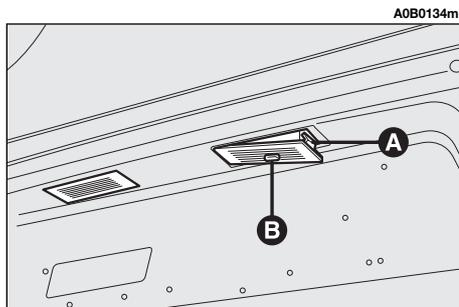

fig. 54
- Remove the number plate light unit using a flat-tipped screwdriver protected by a soft cloth on the catch (**A-fig. 54**).
- Remove the unit (**B-fig. 54**).
– Refit the complete unit (**B-fig. 54**) firstly inserting the catches and then pressing in correspondence with the stopper (**A-fig. 54**).